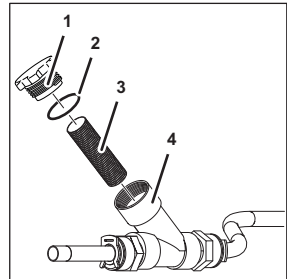

Figure 113
1. Remove the lock nut (Figure 113/1) from the water filter housing (Figure 113/4).
2. Lift the water filter (Figure 113/3) out of the water filter housing (Figure 113/4).
3. Insert the new water filter (Figure 113/3) into the water filter housing (Figure 113/4).
4. Check the seal (Figure 113/2) for damage. Replace any damaged seals (Figure 113/2).
5. Attach the lock nut (Figure 113/1) to the water filter housing (Figure 113/4).